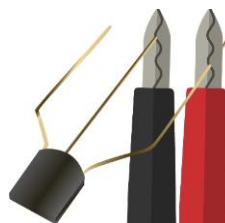

Fig. 1.19 Multimeter probes connected to the transistor terminals
Step 4 – Touch the red probe to the center pin (base) of the transistor, and the black probe to either of the two pin-1 (emitter) or pin-3 (collector) of BJT as shown in Figure 1.19.
Step 4 – Touch the black probe to the center pin (Base) of the transistor, the red probe to either of the two pin – 1 (Collector) or pin- 3 (emitter) of BJT as shown in Figure 1.19.